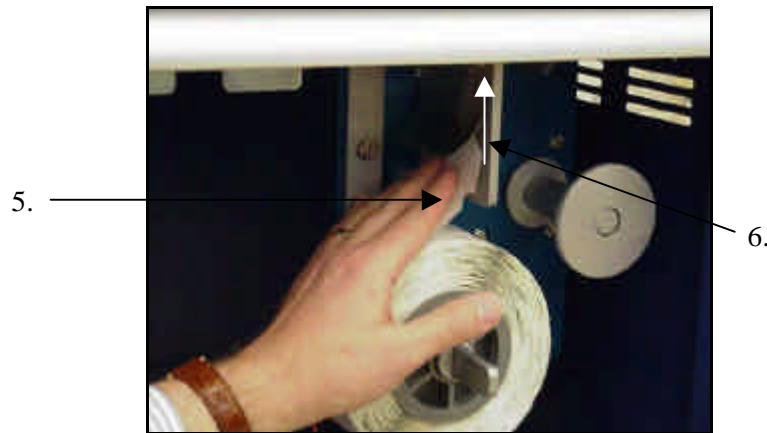

Figure 19: Leader Coming Off Left Side, Threading Leader Up Under Curved Spring Plate
5. Install the roll of D1 tags onto the supply roll shaft, with the leader coming from the left side of the roll (**Figure 19**).
6. Thread the leader of the D1 roll of tags up through the tag feed area (under the curved steel spring plate) (**Figure 19**).